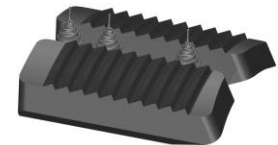

Fig. 3
**NOTE8:** Install three (3 ea) springs per slip (Fig. 3).